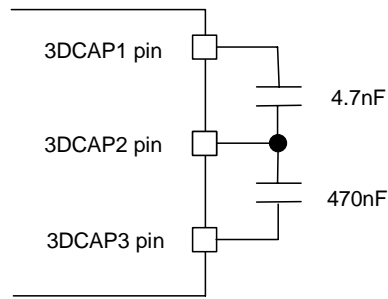

Figure 25. 3D Function External Circuit
4.7nF±20% and 470nF±20% capacitors should be connected at 3DCAP1, 3DCAP2 and 3DCAP3 pins as shown in Figure 25. The load capacitance at 3DCAP1, 3DCAP2 and 3DCAP3 pins should be 20pF(max), respectively.